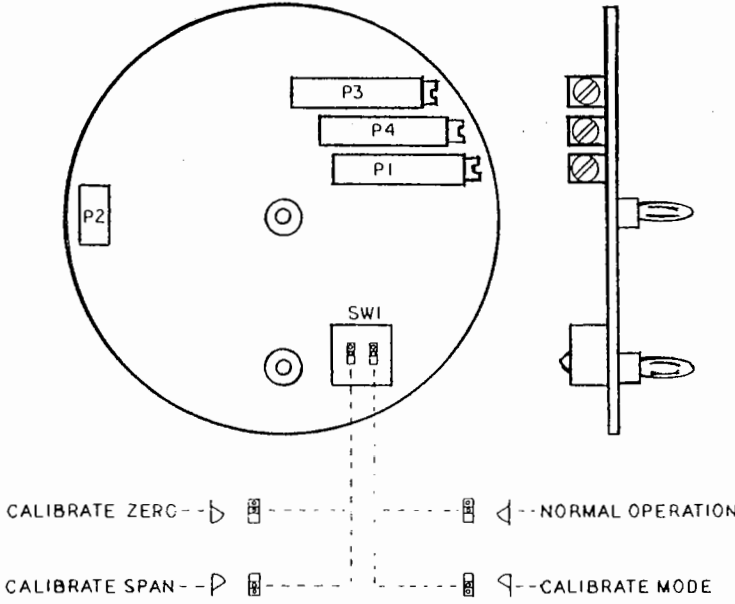

FIG. 3 LOWER PC BOARD WITH SWITCH SETTINGS FOR INTERNAL CALIBRATOR
1. To calibrate the 18-SLPI-1V, remove the front cover and label to expose the calibrating switches, and the span and zero pots, located on the top PC board (Figs. 3 and 4). Input a 4 to 20mA signal and calibrate the indicator as follows:
2. Set switch 1, position 1 (FIG. 3) located on the lower PC board to the calibrate position.